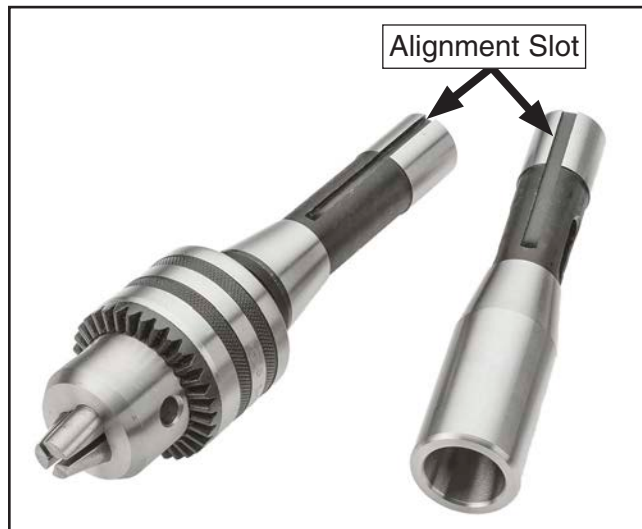

Figure 43. Example of R8 tooling with alignment slots.
4. Align tool slot (see **Figure 43**) with pin inside spindle, then insert tooling all the way into spindle.